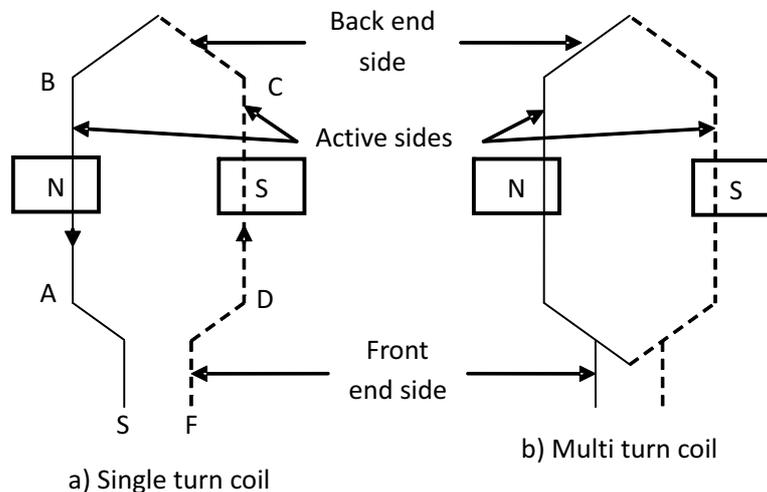

Fig.3.1 - Winding Coil representation
A length of wire lying in the magnetic field and in which an emf is induced is called a coil. The coils used in windings are shown in Fig. 3.1.
Fig. 3.1 (a) represents a coil with only one turn in it. Each coil has active and inactive sides. A coil can in general have any number of turns. A single turn/coil has two active sides, or otherwise called as conductors. Similarly, a two turn coil has four conductors and a three turn coil has 6 conductors. Generally, the total number of conductors per coil,
**Active side of a coil :** It is the part of a coil which lies in the slots under a magnetic pole and emf is induced in this part only. In Fig. 3.1 (a), coil sides AB and CD are called as active sides. For a double layer winding, one half portion of the coil drawn with solid line corresponds to the coil side lying on the top of a slot, and the dotted line corresponds to the coil side lying in the bottom layer of another slot. This type of representation is used for double layer winding. For a single layer winding, the complete coil is represented by a solid line.
**Inactive side of a coil :** The inactive side of a coil consists of two portions, namely the front end side and the back end side. In Fig. 3.1 (a), the portion of the conductor which joins the two active sides and placed around the core, is called the back end side of the coil. The portions which are used to connect other coils are called front end side. These ends have two leads called as
starting end S and finishing end F of a coil. In Fig. 3.1 (a), AD and BC represents the inactive sides of a coil.